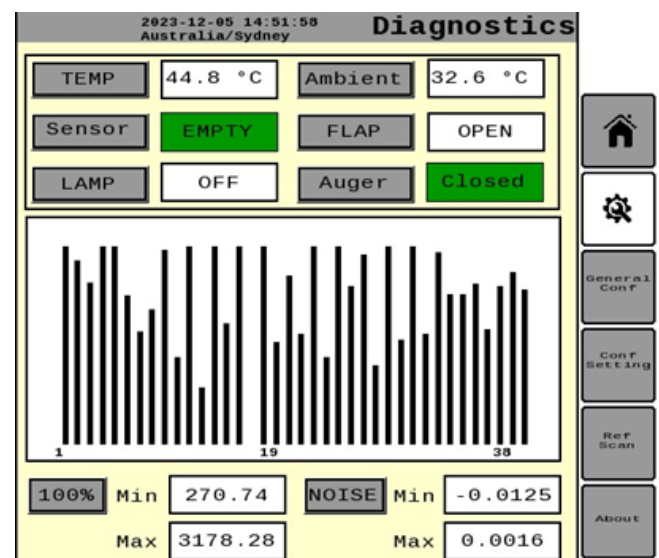

Figure 7.3 CropScan Virtual Terminal Diagnostics Noise scan
- i. When the Outloading Auger is retracted, the Test Auger Sensor status box should turn **GREEN** when pressed as shown in figure 7.3.